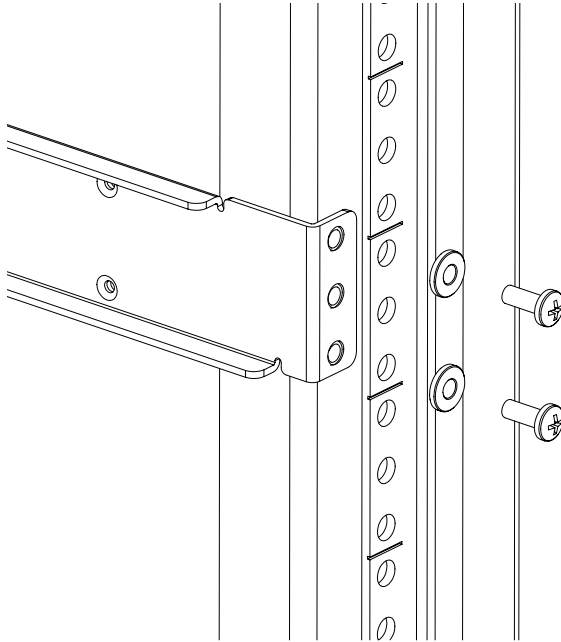

Figure 8: Assembling the outer rails (HP System/e cabinet)
- For an HP System/e cabinet, install two #10-32 x 1/2-inch Phillips pan-head screws with captive star lock washers and two #10 alignment washers in the upper and lower hole locations of the right rail. Then install two #10-32 x 1/2-inch Phillips pan-head screws with captive star lock washers and two #10 alignment washers in the upper and lower hole locations of the left rail. See Figure 8.